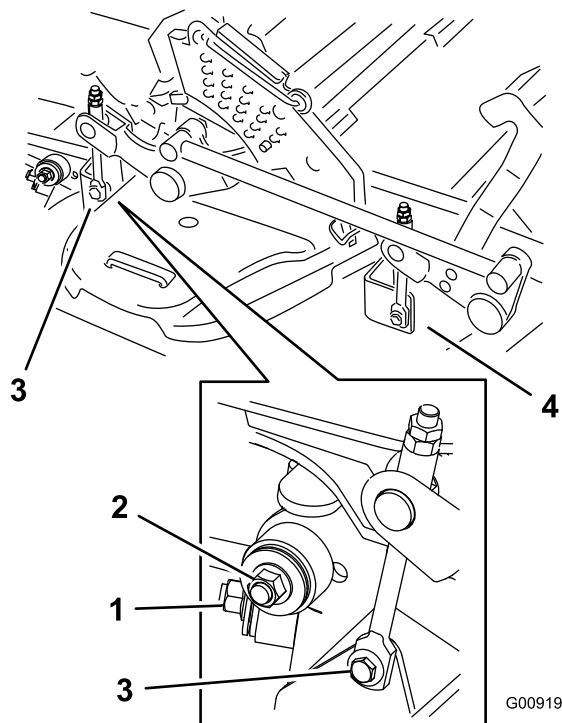

Figure 97
8. Remove and retain the hardware on both sides of the deck as shown in Figure 97.